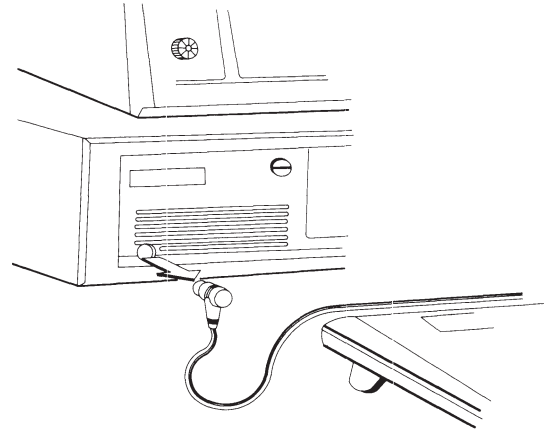

Figure 7-5. Removing the Keyboard.
2. Gently pull the keyboard connector from the receptacle on the front of the system unit (Figure 7-5).